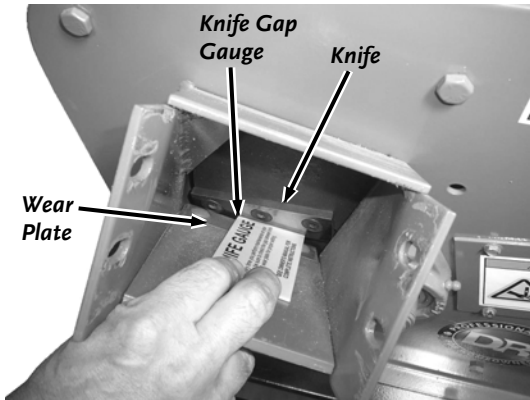

Figure 39
3. Slide the Knife Gap Gauge in between the Knife and Wear Plate to check the clearance (**Figure 39**).
2. Take the Gap Gauge and slide it between the Knife and Wear Plate (**Figure 39**). Adjust the Wear Plate against the Knife Gauge and tighten the outside Locknut, check the gap, tighten the inside Locknut and then the center Locknut.